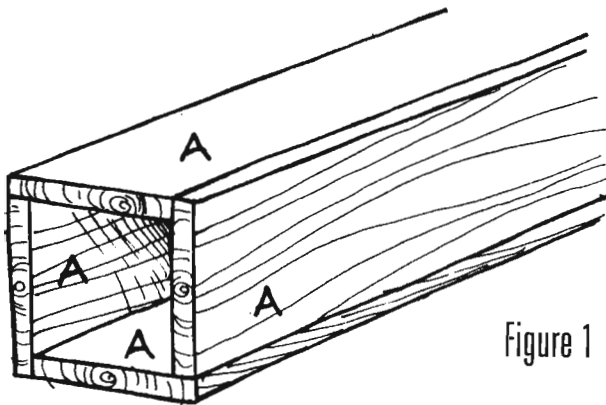

Figure 1
1. Assemble the four side pieces (A), overlapping each piece in rotation as shown in *Figure 1*. With the four sides (A) in position, the stand measures 6-1/4 inches wide on all sides. Glue and nail all four sides (A) along their entire length. Use the smaller, 3-penny finishing nails, spacing them about 6 inches apart. Countersink the nails.